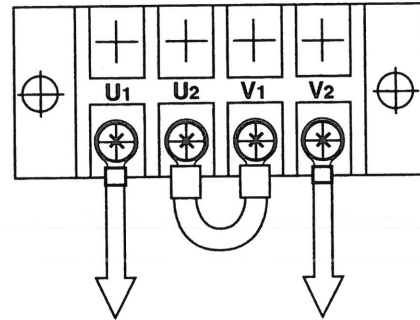

Figure 28: Output Terminal Board, 240 Volt Output
- Connect U2 to V1 on the output terminal board (Figure 28).